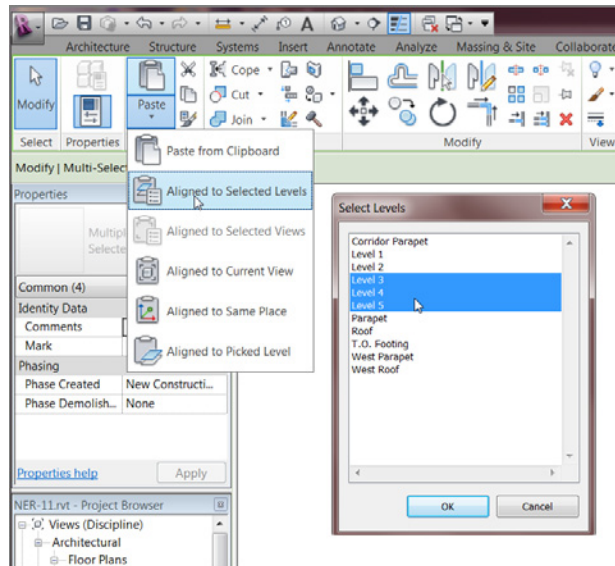

FIGURE 10.31: Paste ➤ Aligned to Selected Levels
3. Click Paste ➤ Aligned To Selected Levels, as shown in Figure 10.31.